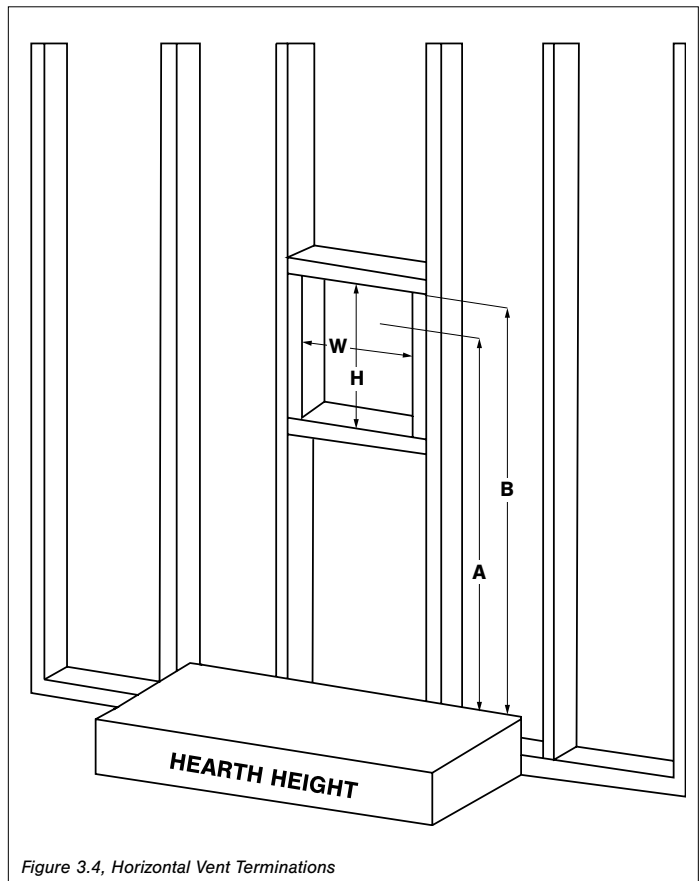

Figure 3.4, Horizontal Vent Terminations
- Refer to Table 3.2, Table 3.3, Table 3.4, and Figure 3.4 for horizontal vent framing.